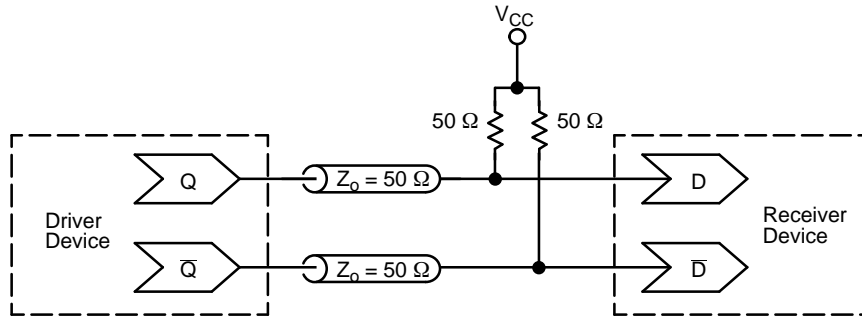

Figure 10. Typical Termination for Output Driver and Device Evaluation
- CML outputs require $50\ \Omega$ receiver termination resistors to V_{CC} for proper operation (Figure 10).